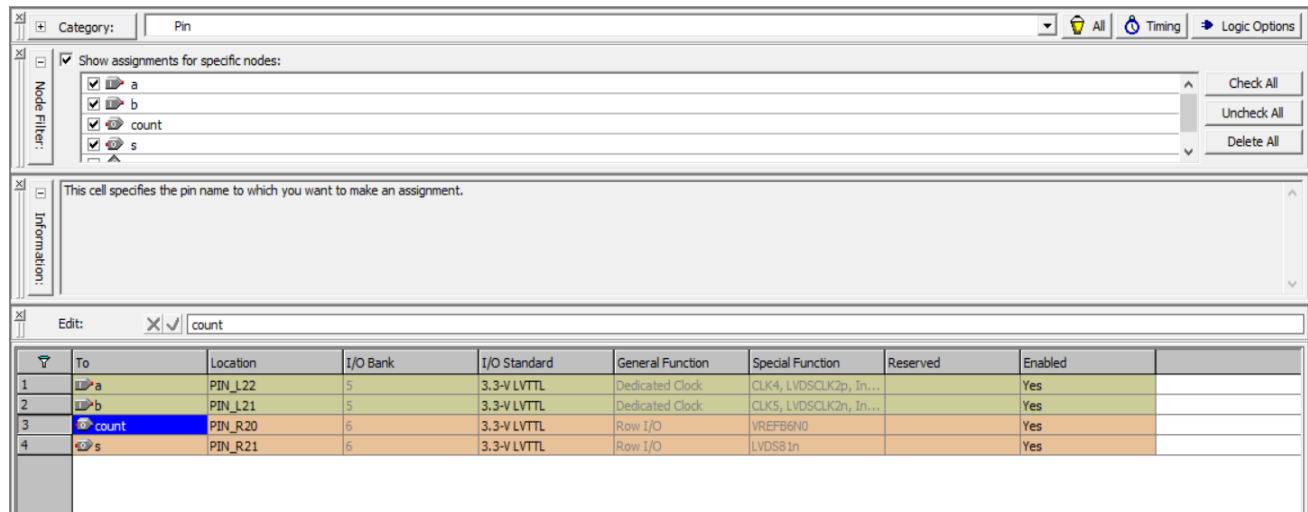

Figure 8.29: choose inputs and outputs in board.
6. Select Pin in the category and select a switch for input. After that save the pin assignment. Then the pins will appear in diagram as shown in Figure 8.29.